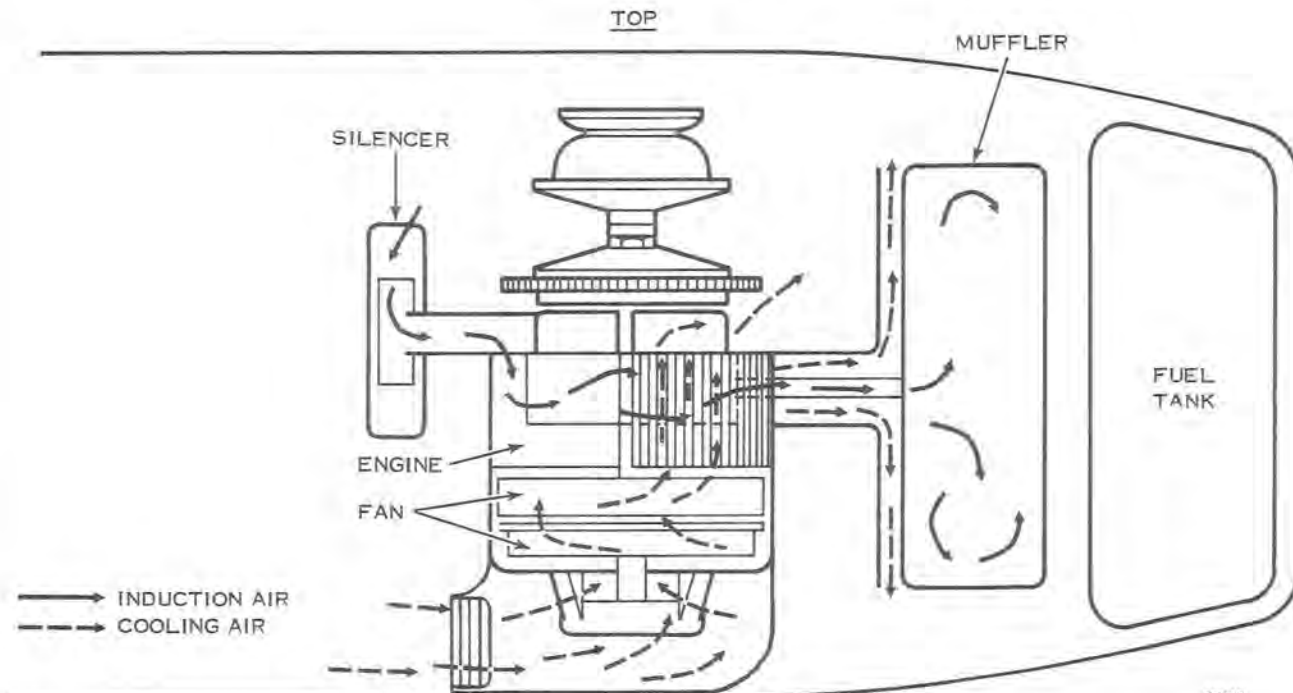

Figure 3-5
The engine is cooled from two different sources, ① the induction air and fuel mixture thru the engine itself; and ② air forced thru fins on the outside of the engine. See Figures 3-5 and 3-6.